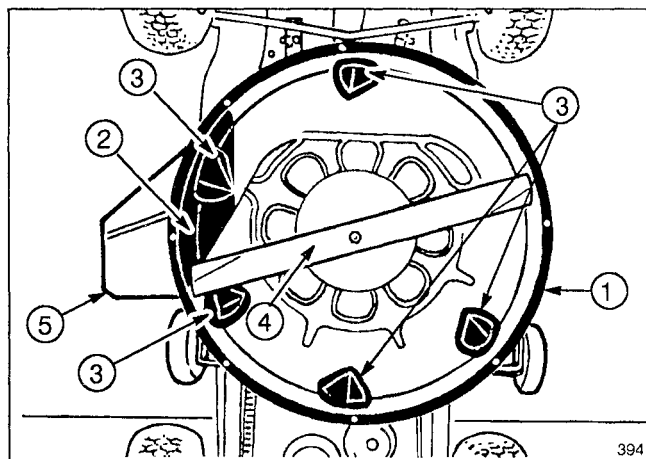

Figure 7
To side discharge or use bagging attachment, remove the wingnut securing the plastic discharge cover to the grass deflector and mower housing. **NEVER REMOVE THE GRASS DEFLECTOR FROM THE MOWER HOUSING (Fig. 7).** Save the discharge cover and wingnut for possible future reinstallation.
The rider is equipped with special parts (Fig. 7) which increase your rider's ability to cut and recut grass clippings, leaves, and other yard debris into tiny particles which are injected down into the grass. These parts are:
**NEVER** remove the grass deflector (Fig. 7) from the mower housing. If the discharge cover under the grass deflector is removed in order to side discharge or bag, the grass deflector routes discharged material down toward the turf. If the deflector is ever damaged, replace it. Without the deflector or complete grass catcher assembly mounted in place, discharged material could cause personal injury or blade contact could occur.
**Never remove the grass deflector (Fig. 7) from the mower housing. If the discharge cover under the grass deflector is removed in order to side discharge or bag, the grass deflector routes discharged material down toward the turf. If the deflector is ever damaged, replace it. Without the deflector or complete grass catcher assembly mounted in place, discharged material could cause personal injury or blade contact could occur.**